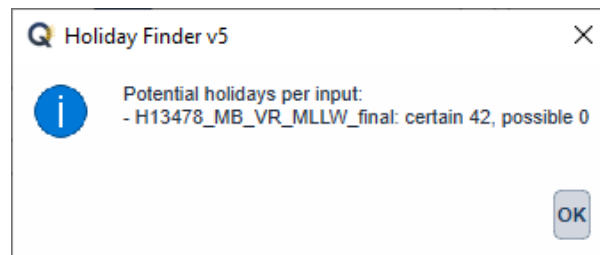

Fig. 2.19: The output message at the end of **Holiday Finder** execution.
- After computing, the output window opens automatically, and the results are shown (Fig. 2.19).